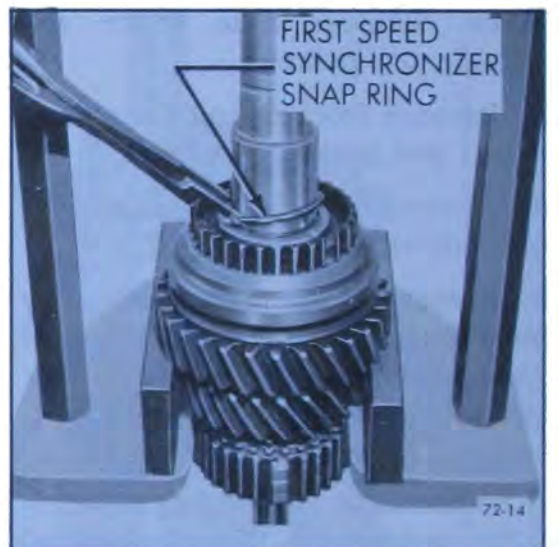

Figure 72-14—Removing First Speed Synchronizer Snap Ring
5. Remove first speed synchronizer snap ring. See Figure 72-14.